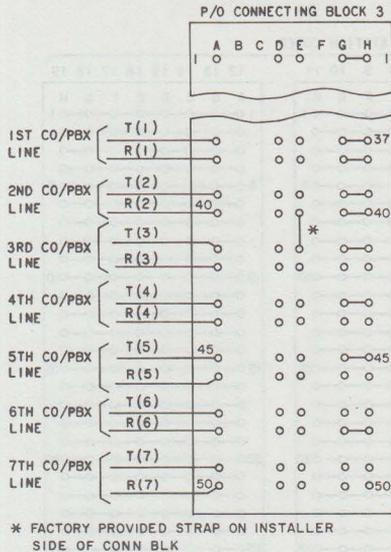

Fig. 15—Connections for Incoming CO/PBX Lines
- (1) Remove cover from KSU.
- (2) Use the template provided to locate the fastener holes at the selected location.
- (3) Install appropriate fasteners.
- (4) Hang KSU on fasteners.
- (5) Connect the circuit ground to an acceptable ground. For circuit ground, a No. 14 gauge wire should be attached from the LOC GRD terminal of the power unit to an acceptable local ground. If a 3-wire grounded receptacle is not available, a **frame ground** (No. 14 gauge wire) must be connected from the case or frame of the power unit to an acceptable local ground.
- (6) Unlatch and open carrier assemblies.
- (7) Terminate the incoming CO/PBX lines on connecting block 3 as shown in Fig. 15.